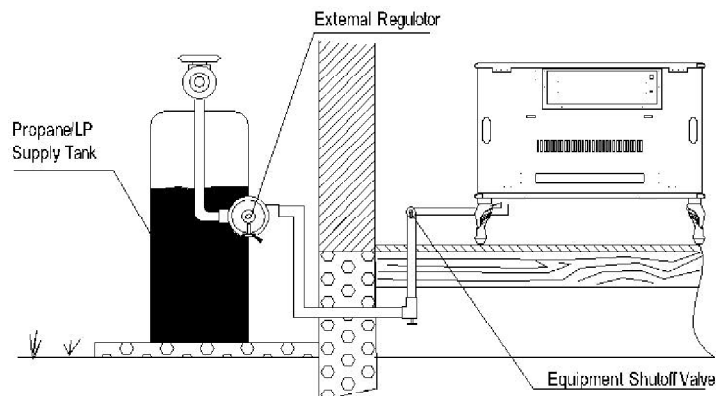
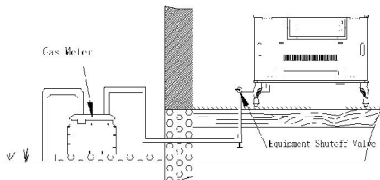

Figure 9.1 - Checking Gas Joints
Figure 9.2 -Checking Gas Joints
4. Check all joints from equipment shutoff valve to control valve (LP GAS see Figure 9.1 NATURAL GAS see Figure 9.2). Apply mixture of liquid soap and water to gas joints. Bubbles forming show a leak.